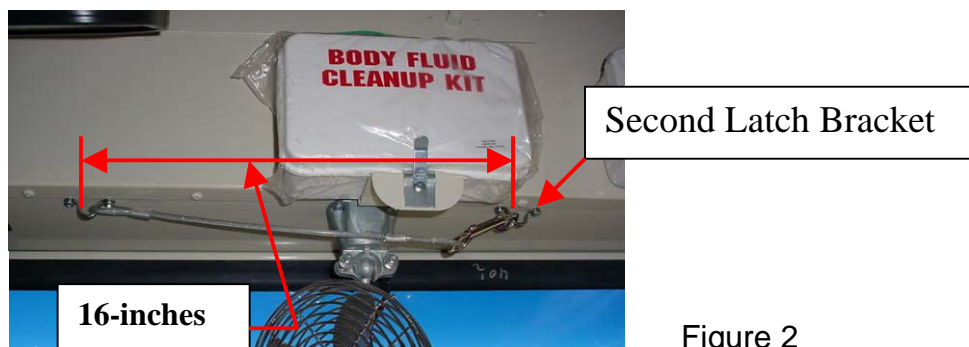

Figure 2
3. Mark the location of the left hole of the second bracket 16-inches to the right of the left hole of the first bracket. Again, using the bracket as a template, align the bracket with the flange of the bulkhead to mark the location of the second hole. See Figure 2.